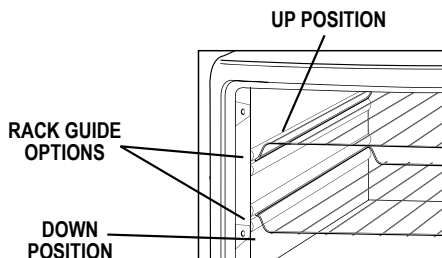

Figure 4
- To accommodate a wide variety of foods the oven has a reversible rack and two rack positions. The rack can be inserted in the oven in the up position or down position. The rack will fit into either of the rack guides inside of the oven. (See Figure 4)